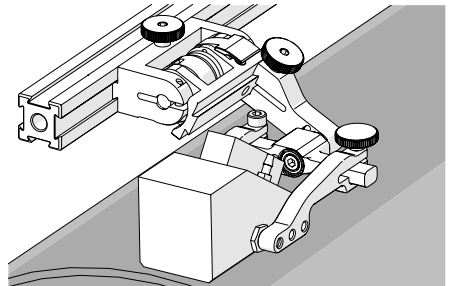

Fig. 75 - Spring loaded scan position
4. Gently lower probe holder and wedge to the scanning surface (Fig. 75).